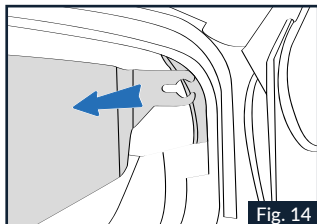

Fig. 14
3.2 Hold the left lateral part of the sunscreen and pull it toward the outside of the helmet (Fig. 14).
4.2 Insert the sunscreen left end into the guide until it is completely fastened to the shell housing (Fig.14).